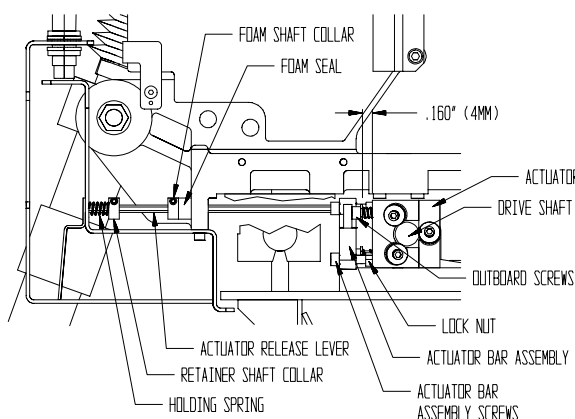
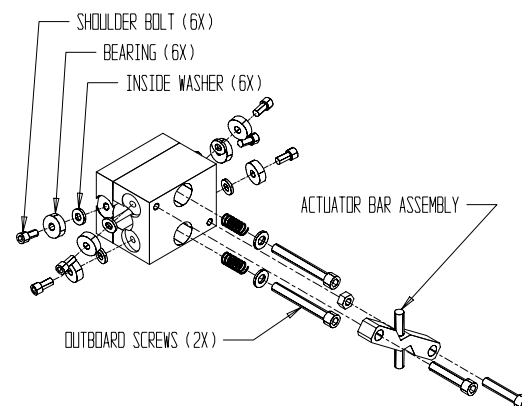

FIG. 12
FIG. 13
STEP 2--Turn the actuator release lever 1/2 turn clockwise to release the actuator from the drive shaft. Slide the actuator release lever out of actuator bar assembly by loosening the retainer shaft collar, which preloads the holding spring. See FIG. 12.
STEP 3--Move the grinding head carriage to the left side. Lift the bellows. Remove shoulder bolts fastening the six bearings to the actuator body. See FIG 13. Remove the old bearings from the shoulder bolt, and discard, saving the inside washer. Insert the shoulder bolts through the new bearings and the saved inside washers. Then install these assemblies into the actuator body and tighten the shoulder bolts.
STEP 5--Slide actuator release lever with collar, spring washer and foam seal back into actuator bar assembly and lock in place with retainer shaft collar. See FIG. 12. Turn actuator release lever 1/2 turn counterclockwise to engage bearings to drive shaft.
STEP 7--If readjustment is required to achieve pull force within specification, with actuator bearings engaged to drive shaft, readjust the two outboard screws with springs that hold the actuator together. See FIG 13. To reach these screws, the actuator bar assembly must be removed. Turn each screw an equal amount when resetting for more or less tension, clockwise is more tension. Repeat Step 6 and verify pull force. Continue to adjust until within specification. The factory preadjusted spring tension is .160 or 5/32" [4 mm] from under the washer holding the spring to the actuator block. See FIG. 12. This should give the 60 lbs. carriage pull force specified.
When adjustment is correct reinstall the actuator bar assembly. The bar assembly must be adjusted parallel to the actuator aluminum body and so it is just touching the outboard screw heads. Then tighten the lock nut on the lower actuator bar assembly mounting screw. See FIG. 12. Then reinstall the release lever package as above.